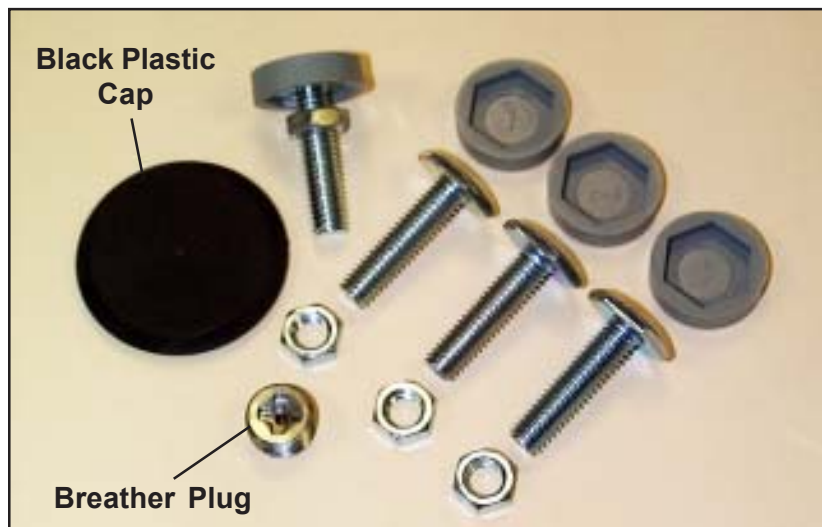

Figure 1. Parts Supplied with Table
After removing the top carton and the plastic wrap, make sure the following parts are present in the parts bag (Figure 1).
4. Screw the four jam nuts from the parts bag (Figure 1) onto the four leg levelers as far as possible. **Note:** Leave the leveler caps off until the leveling procedure is finished.
3. Screw the breather plug (Figure 1) *finger-tight* into the hole from which the transport plug was removed. **DO NOT** use a tool to tighten the plug.
4. Press the black plastic cap (Figure 1) into the access hole.
1. Screw two jam nuts from the parts bag (Figure 1) onto two leg levelers as far as possible.